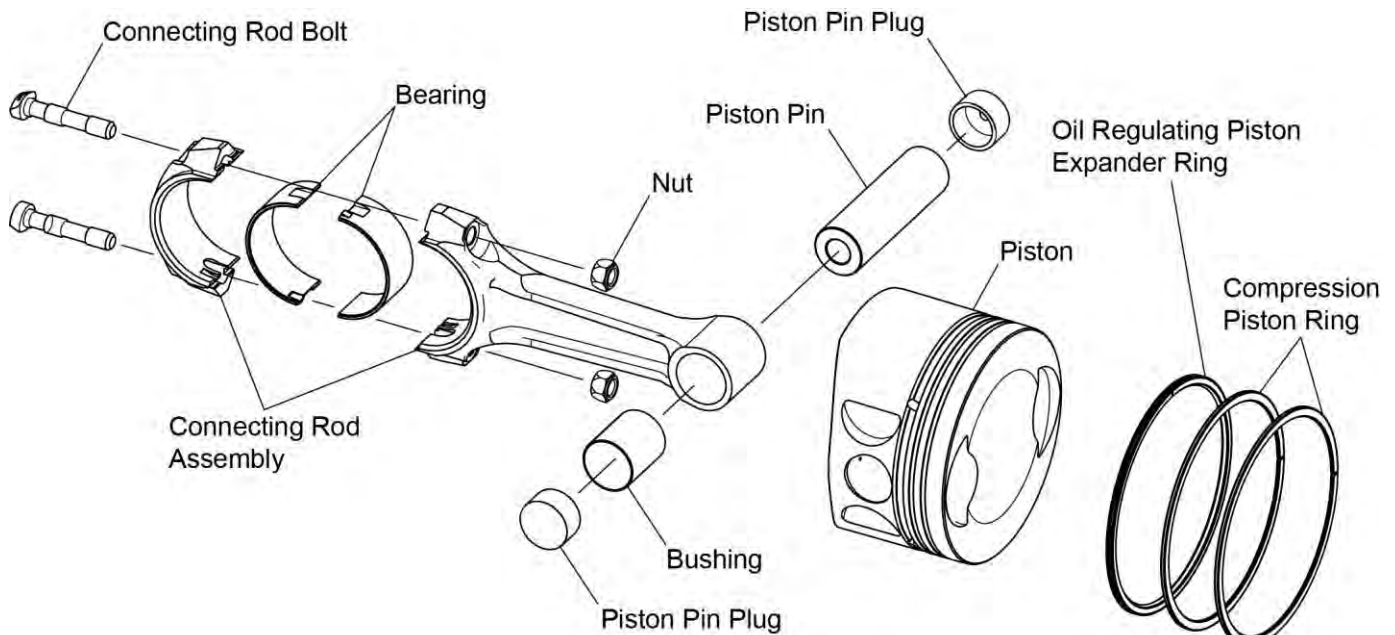

Figure 8
NOTICE: During removal of each piston pin (Figure 8), the piston will disconnect from the connecting rod.
- A. Support the piston and remove the two piston pin plugs (Figure 8) and piston pin.
C. Start from the top down, use the Piston Ring Expander (P/N 64713) to remove the two top compression rings and the oil regulating piston expander ring (Figure 8).